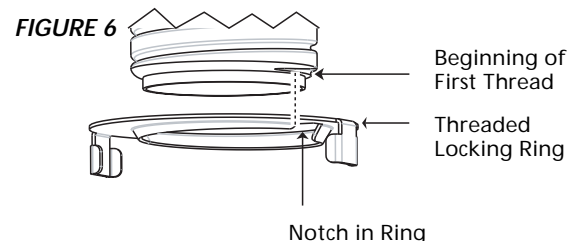

FIGURE 6
**Note:** As shown in Figure 6, line up the beginning of the first thread on the lamp holder and notch on the locking ring to avoid cross threading the ring. If ring becomes hard to turn, rotate ring counter clockwise to loosen and reposition. Do not force the ring on.